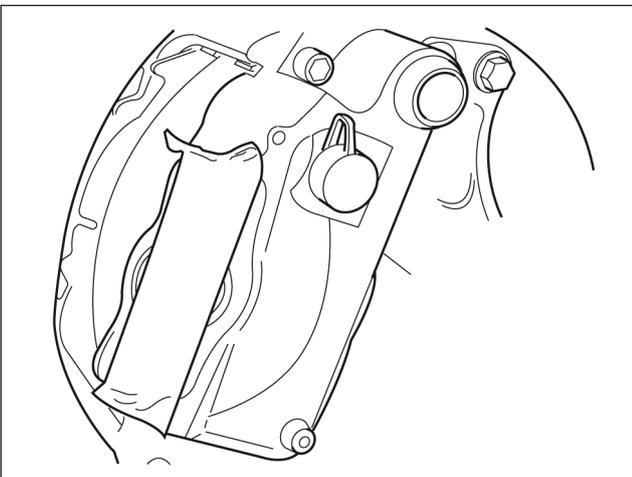

Fig. 1.14
2. Cover the exposed air chamber mounting aperture with tape to prevent debris from entering the caliper housing assembly. Fig. 1.14